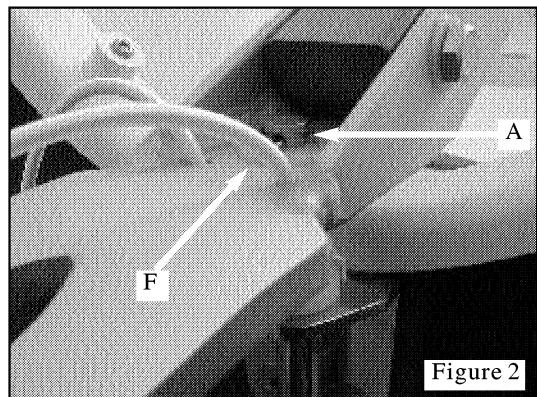

Figure 2
- Slip the second lower pin (ref. A) to keep the whole in position, and don't fold it (Figure 2).
- Adjust the sleeve position with the bearings that are left according to the thickness that is necessary to reach the bottom of the last boring (Figure 2).
- Position the last pin (Figure 2, ref. A).